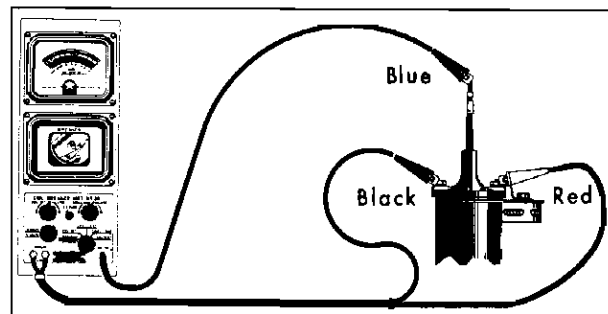

Fig. 11-23 Heating Coil
2. Insert adapter lead in coil tower and connect coil tester leads as shown in Fig. 11-23.